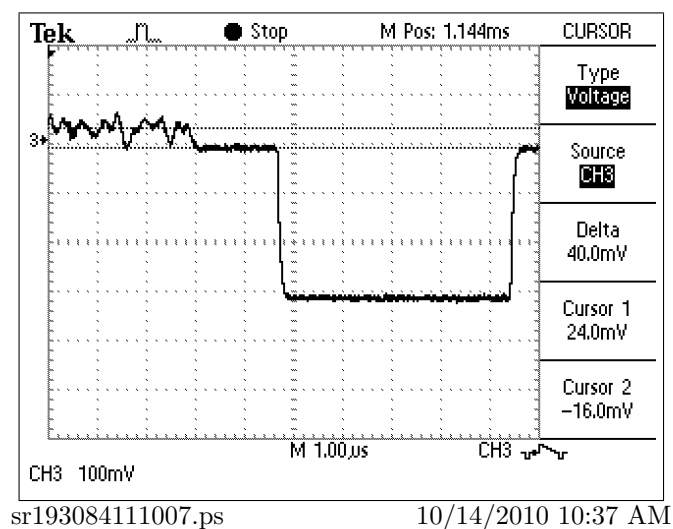
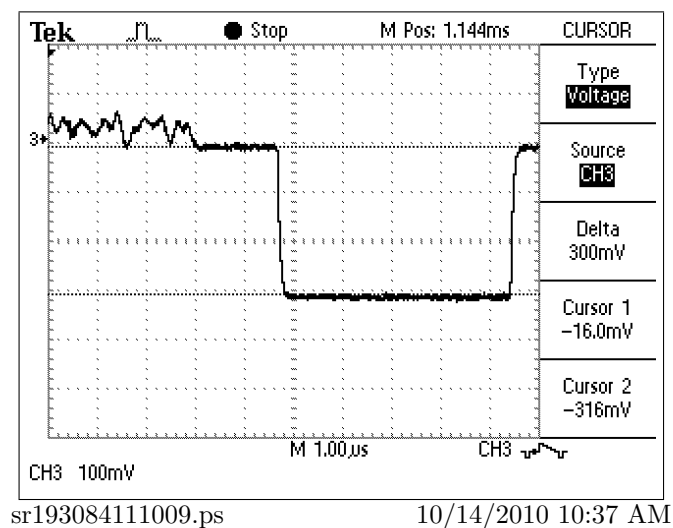

Figure 7: VK-S275R 0501-0102, Black Level Voltage to Blacker than Black, Capture #5
Figure 8: VK-S275R 0501-0102, Blacker than Black Voltage to Sync Tip, Capture #5
- 9.7 Figure 7, page 6, shows the Black level voltage to the Blacker than Black level.
- 9.8 Figure 8, page 6, shows the Blacker than Black voltage level to the Sync Tip Level.
11. The picture used was obtained by placing the camera with its lens directly down on a yellow note pad to produce an “almost black” picture. For the black level pictures a guess of the average point of the black level was made. (This guessing was only needed on Figure 7, page 6 and Figure 8, page 6.)